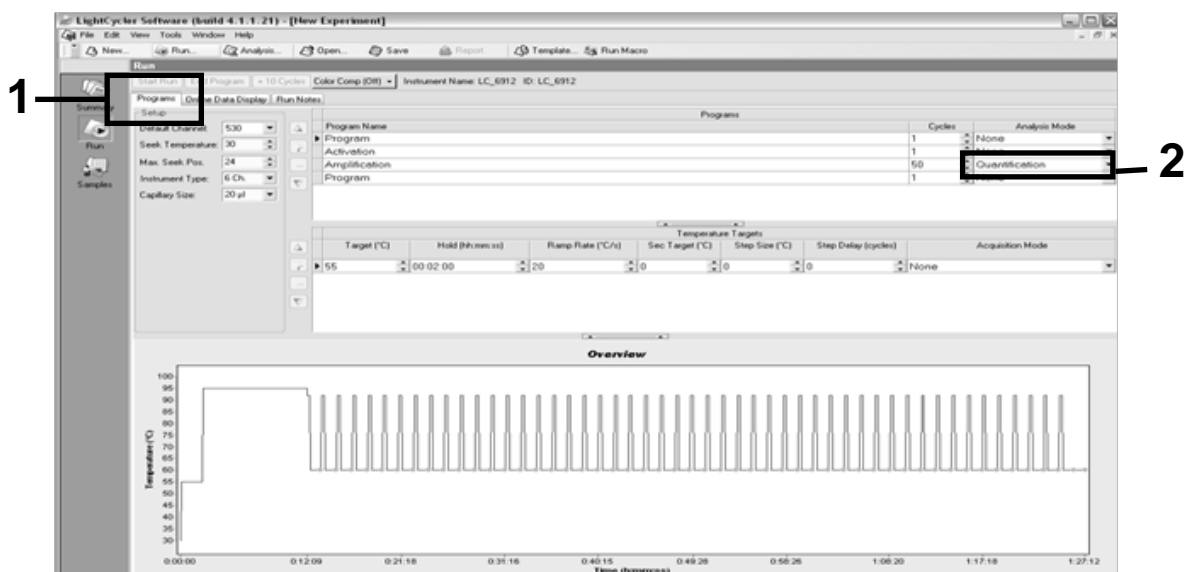

Figure 28. Programming screen for LightCycler 2.0.
10. Program the thermal cycler (Figure 28) with the program as indicated in Table 12.